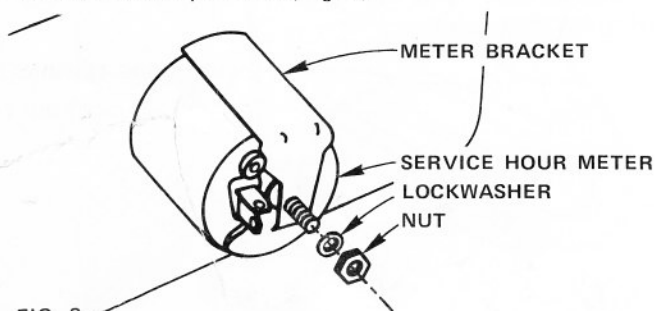

FIG. 3
5. (Model Numbers 917.2588(0 and up), 917.2587(0 and up), 917.2586(0 and up), 917.2575(0 and up), 917.2574(0 and up) and 917.2573(0 and up) only). Place Service Hour Meter in position and secure with Meter Bracket and Lockwasher and Nut provided (Fig. 3).